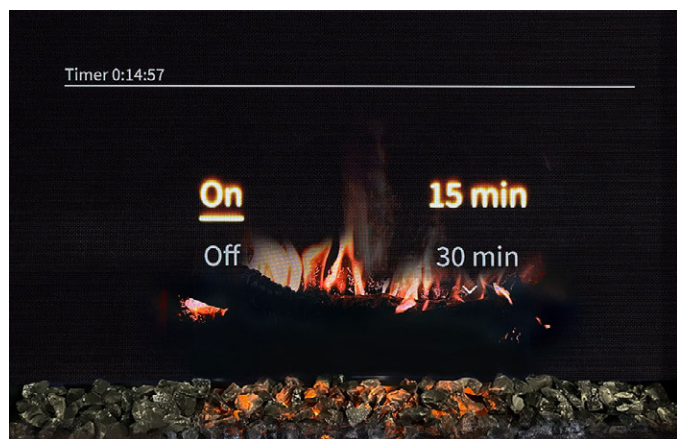

Figure 5.1 Menu Selection
- Selected settings display as **UNDERLINED** in the menu. See Figures 5.1 and 5.2.